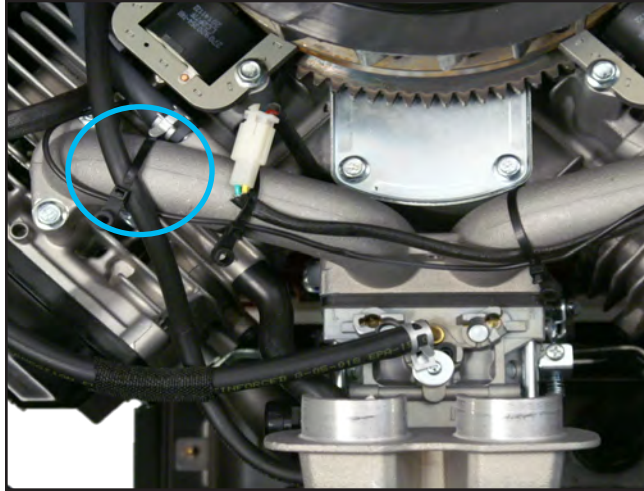

Figure 18
2. Cut the zip tie retaining the fuel tank vent hose to the intake manifold (**Figure 18**).